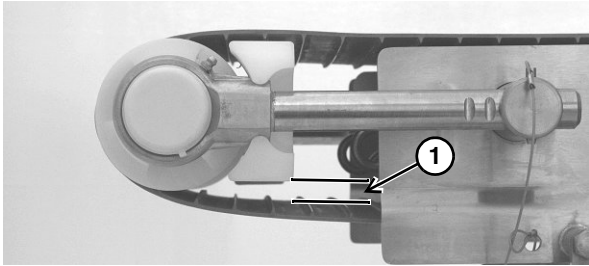

Figure 50
- Some belt sag (**Figure 50, item 1**) is required for proper operation.